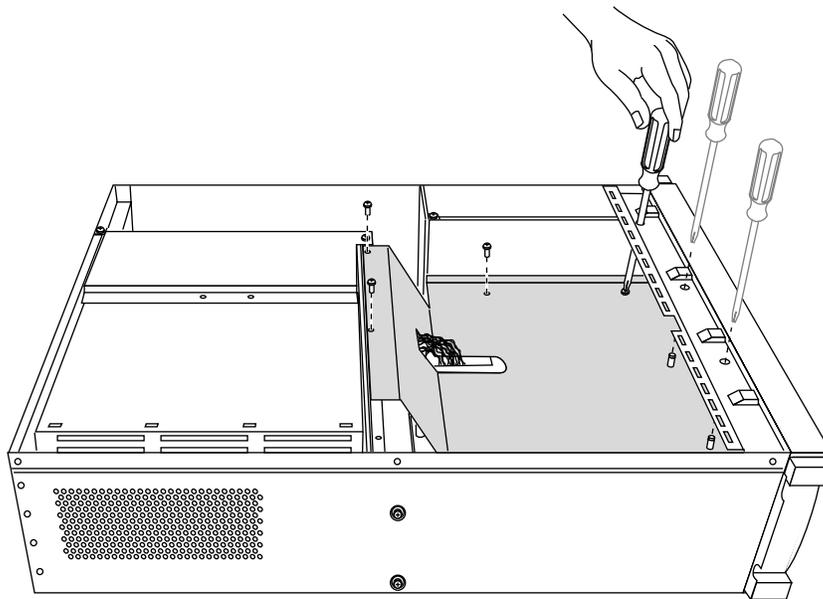

Figure 5-21 Unfastening the Power Supply Shroud
1. Remove the six screws that secure the power supply shroud, as shown in Figure 5-21.